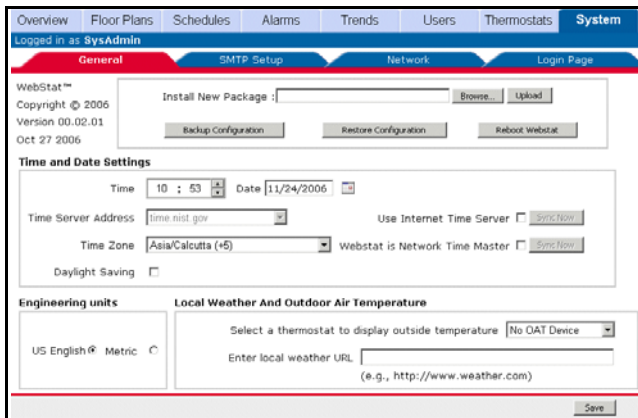

Fig. 8. Configuration Window.
4. Click the **System** tab. This opens the System Configuration screens as shown in Figure 8.